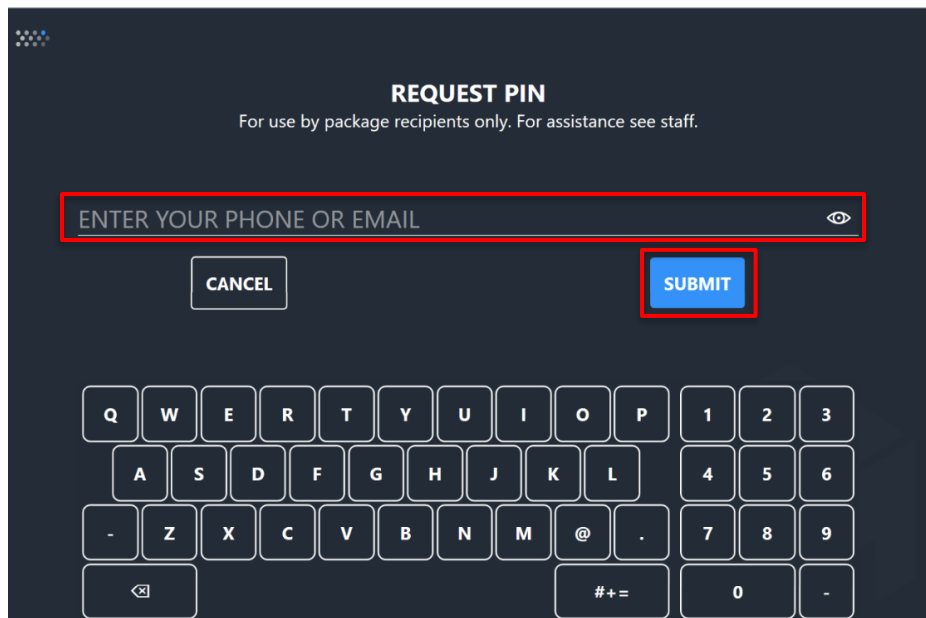

Figure 38: Enter phone or email
2. **Enter the phone number or email address** the recipient uses which is associated with their package deliveries to the Smart Package Room. Tap **Submit**. See Figure 38.